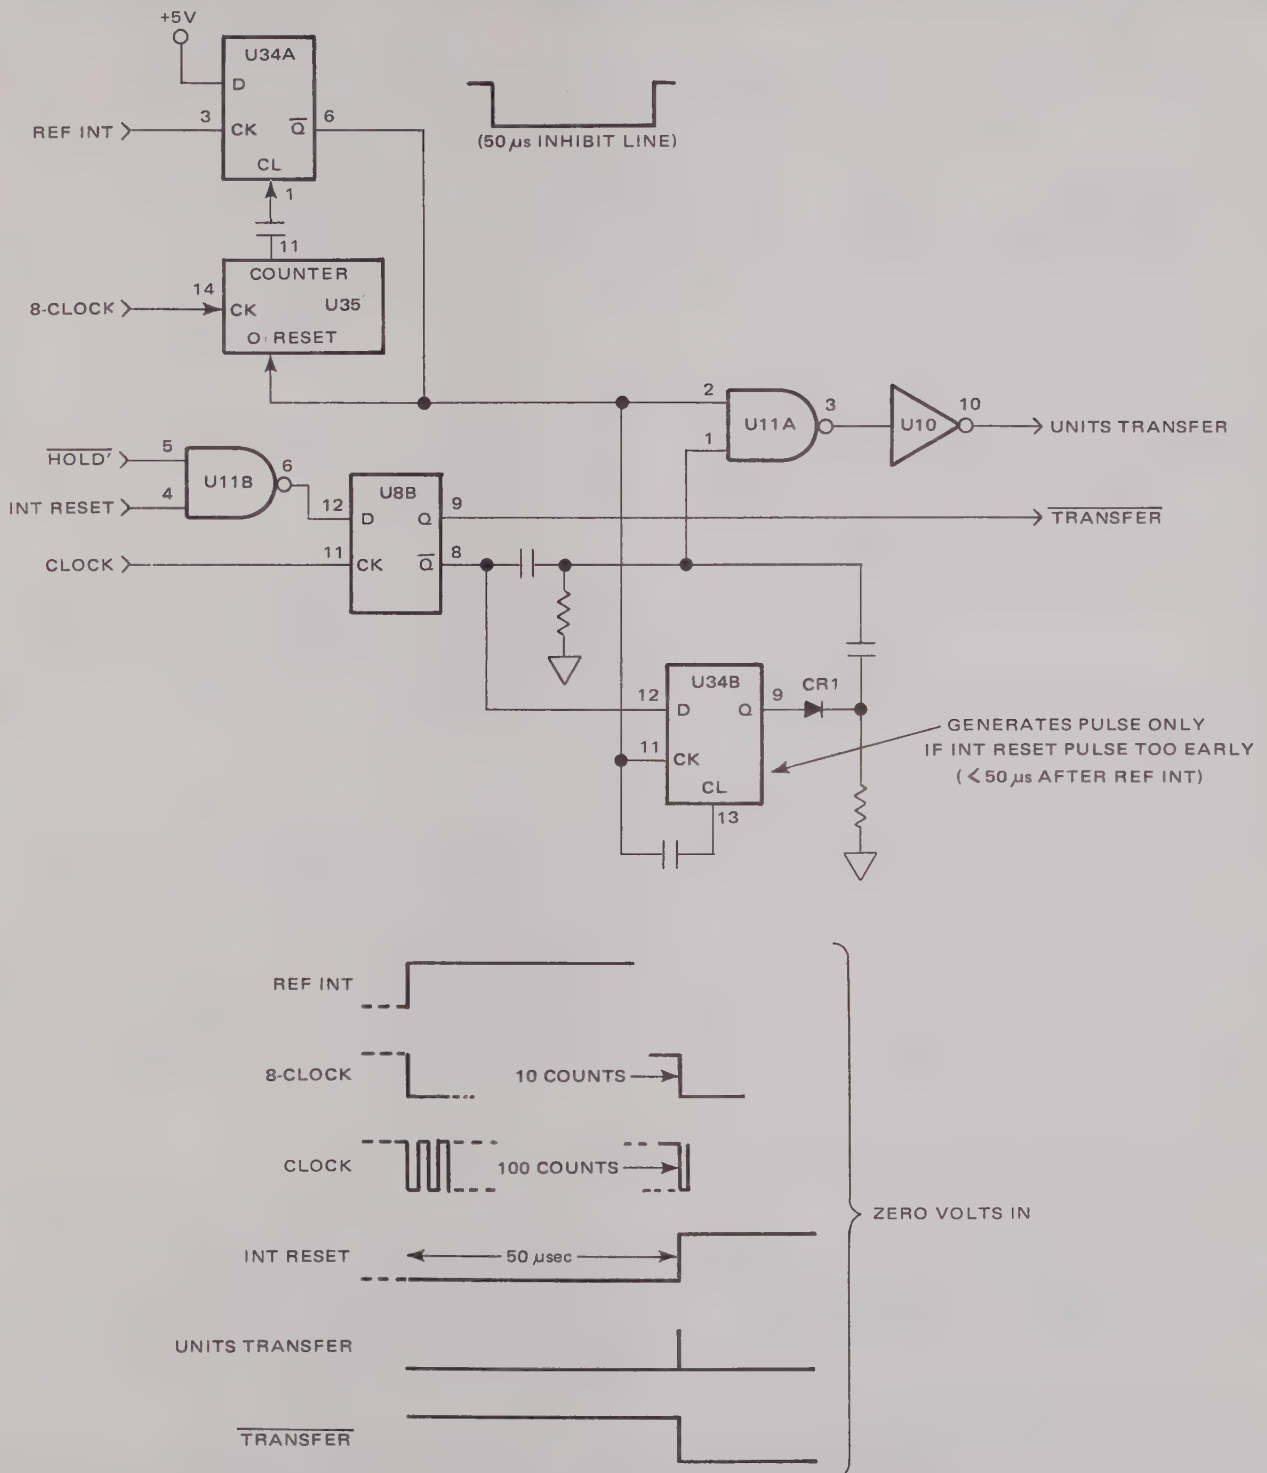

Figure 5.8 - Units Transfer Inhibit Circuitry
5.27 Units Transfer Inhibit. The units transfer inhibit prevents a transfer pulse from being applied to the units storage latch for a period of 50 μ s (100 clock pulses) following the start of the Reference Integration period. This delay time corresponds to the analog delay incorporated in the Analog-to-Digital conversion circuitry. The circuit is shown in figure 5.8 with timing for zero volts input to the DMM. Referring to the figure, the REF INT signal sets $\bar{Q}$ (U34A-6), enabling Decade counter U35, clearing f/f U34B and inhibiting NAND gate U11 for a 50 μ s (10 8-CLOCK counts); U34A is reset by counter U35. A normal